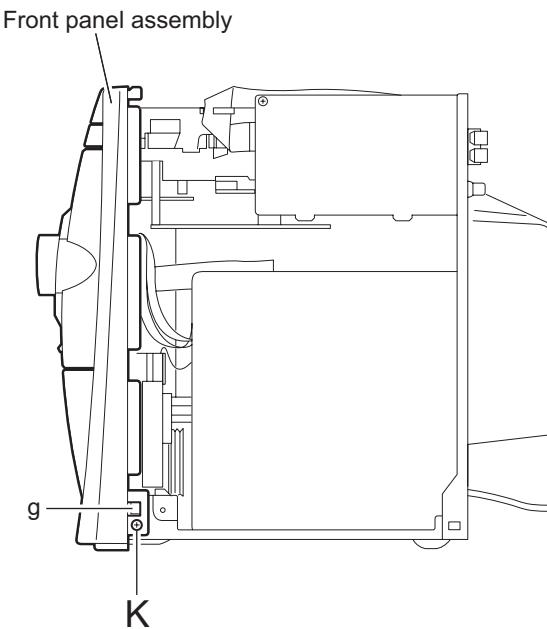

Fig.13
2.1.8 Removing the front panel assembly (See Fig.13,14)